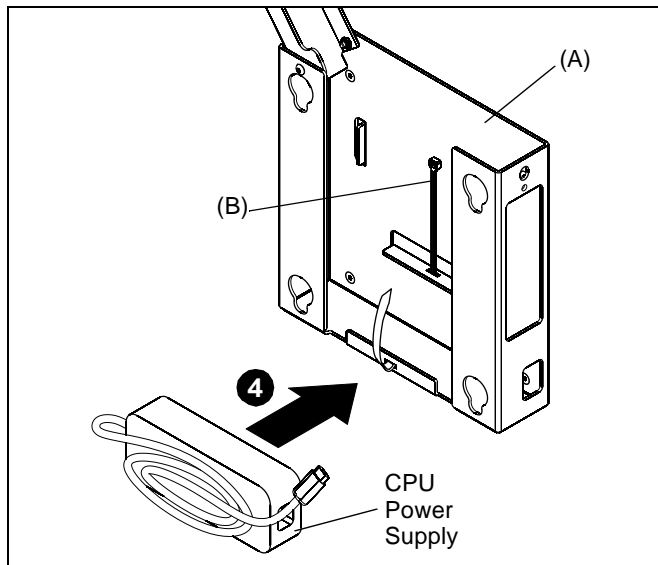

Figure 2
4. Place CPU power supply into CPU holder (A) and fasten cable tie (B) around power supply. (See Figure 2)